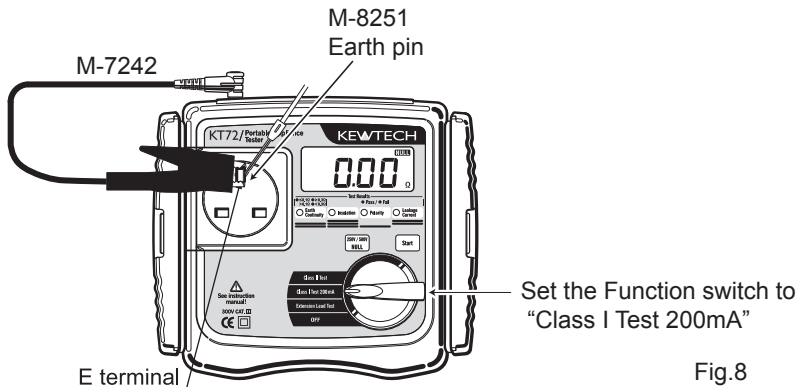

Fig.8
- (1) Set the function switch to Class I Test 200mA function.
- (2) Insert the Earth pin adapter (M-8251) in to the end of the Earth terminal of the Test socket.
- (3) Connect the Test lead with the crocodile clip (M-7242) to the Terminal for RPE-Test Lead of the instrument, and attach the crocodile clip on to the earth pin. (Fig.8)